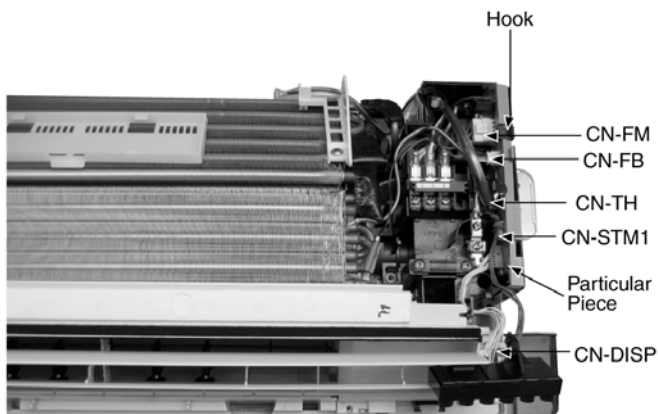

Fig. 5
- Remove the particular piece (Fig.5).
- Release CN-FB connector (Fig.5)
- Release CN-TH connector (Fig.5)
- Release CN-STM1 connector (Fig.5)
- Release CN-DISP connector (Fig.5)